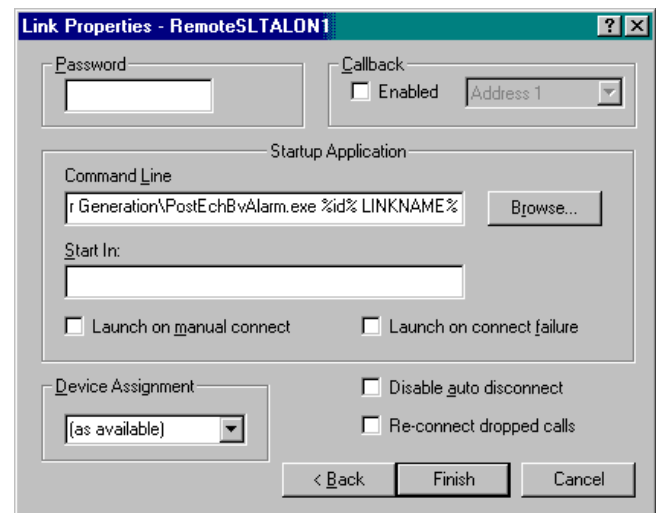

FIGURE 4-26. SLTA REMOTE LINK PROPERTIES
- f. Click on the **Next** button. The Link Properties dialog box is displayed (see Figure 4-26).
- i. The Command Line needs to be appended with additional instructions. Refer to Figure 4-26. Click inside the Command Line and use the right arrow key, to reach the end of the Command Line (or use the **End** key). Enter the following text, including spaces, enter a space before the first percent symbol: